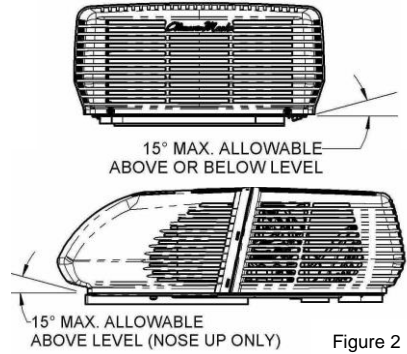

Figure 2
3. The Air Conditioner must be mounted as near level front to rear and side to side as possible when the vehicle is parked level. Figure 2 shows the maximum allowable degree deviations mounting degrees from total surface flat plane).